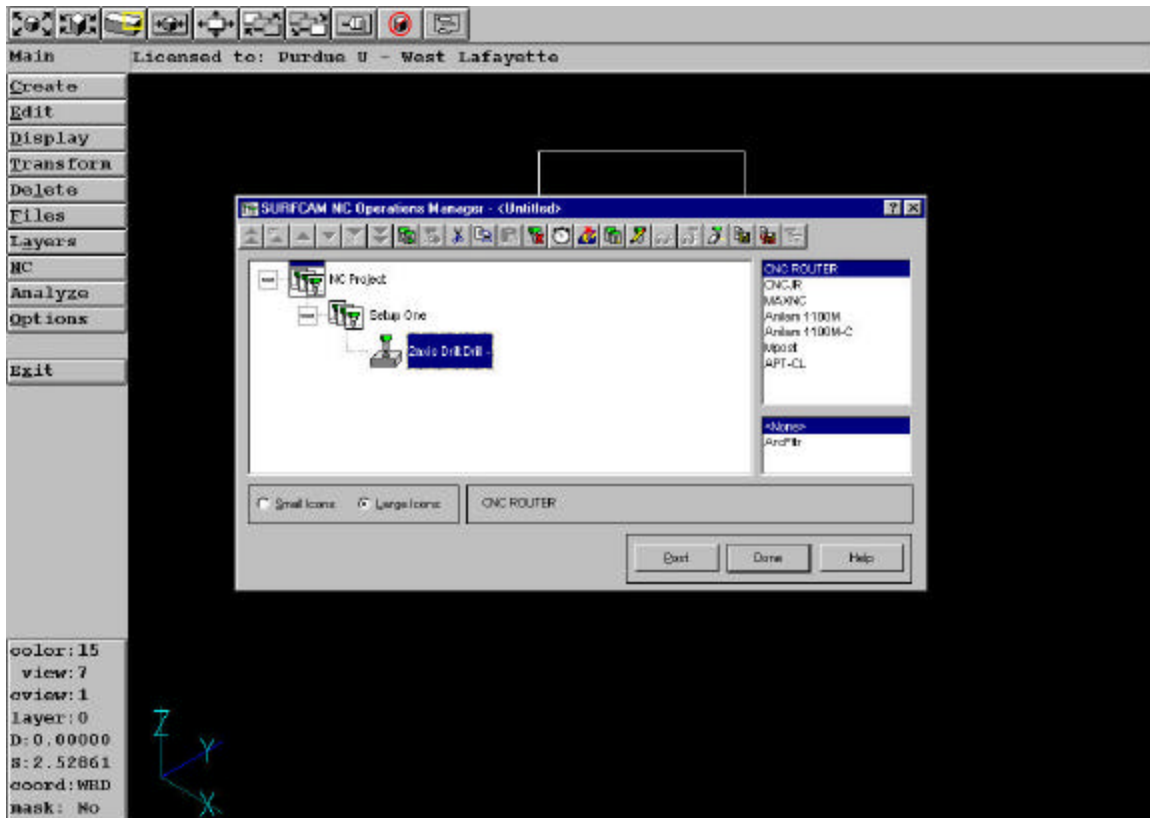

Figure 5: Operations Manager Menu
- 1.) From any screen in SurfCAM, press the  Operations Manager button on the top toolbar. This will bring up a menu, and the SurfCAM screen should look like figure 5.